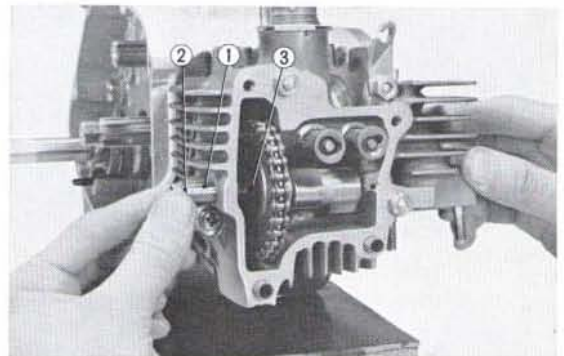

Fig. 2.23 ① Center pin ③ Oil guide
① Timing sprocket ⑤ Arrow mark
② Punch mark ⑥ Cam sprocket
③ Oil guide ⑦ Cam chain guide roller
④ Cylinder head
5. Align the holes in the oil guide and center pin and tap the center pin in with light stroke. (Fig. 2.23)